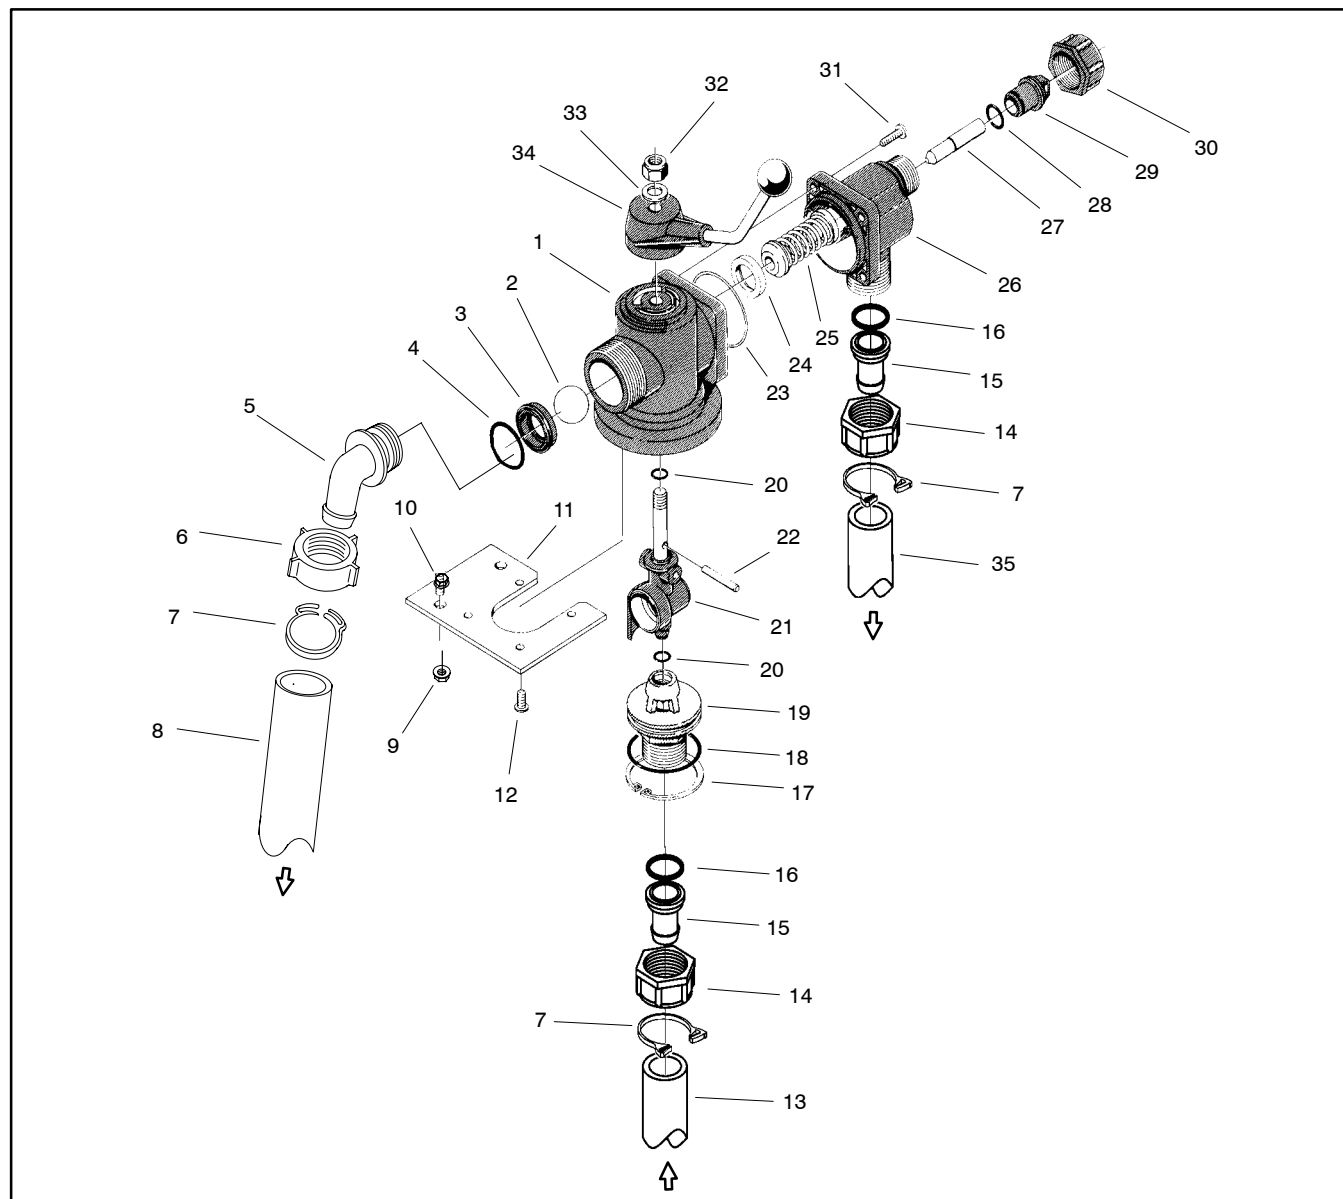

Figure 27
Disassembly (Fig. 27)
2. Disassemble master boom valve using Figure 27 as a guide. Discard all removed o-rings.
Assembly (Fig. 27)
1. Reassemble master boom valve using Figure 27 as a guide. Replace all removed o-rings.